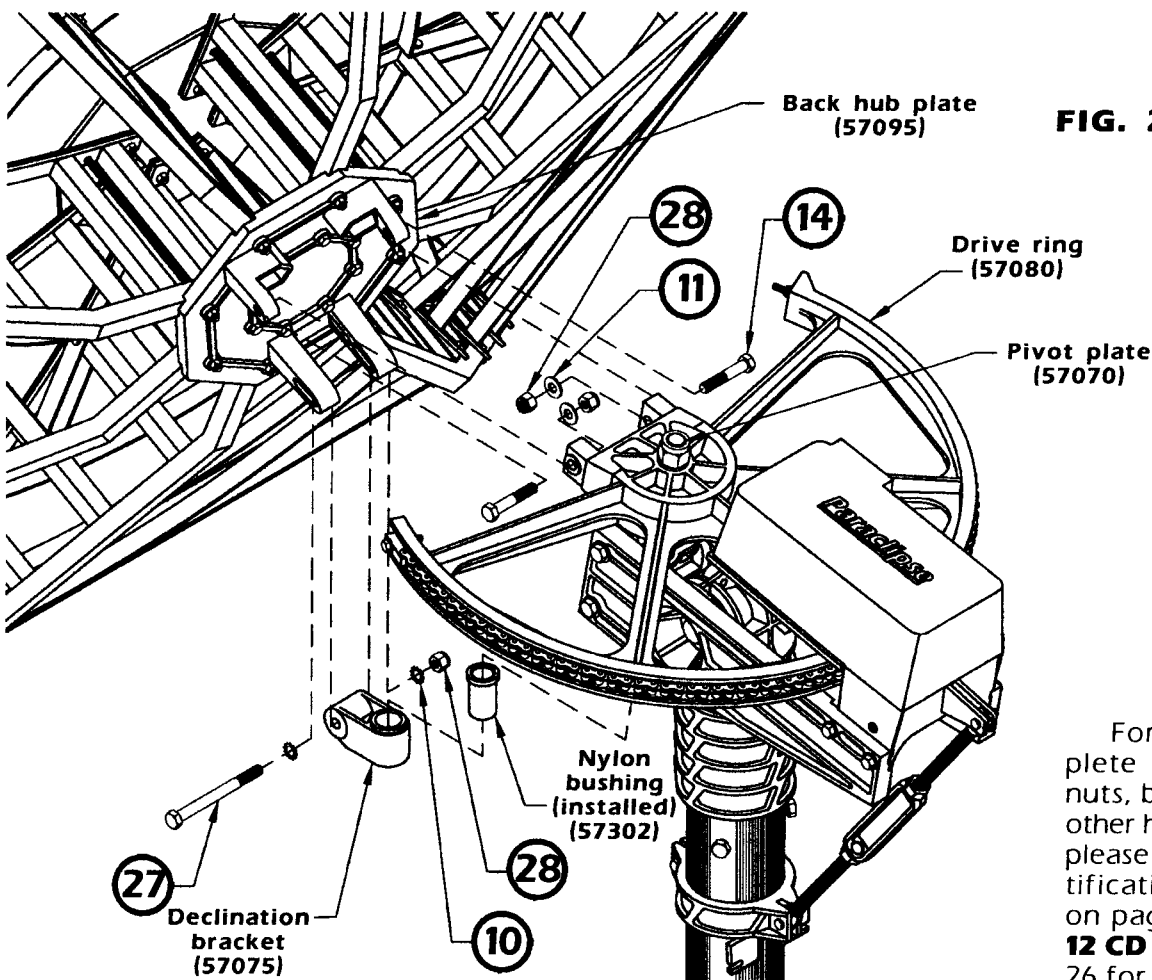

FIG. 25
1. Lift the assembled reflector and attach its back hub plate to the drive ring using two $\frac{1}{2}$ " x $2\frac{3}{4}$ " bolts, two $\frac{1}{2}$ " flatwashers, and two $\frac{1}{2}$ " nyloc nuts. Do not tighten. (See Fig. 25)
2. Slide the declination bracket onto the shaft on the bottom of the pivot plate, making sure that the side with the nylon bushing slides up the shaft first. (See Fig. 25)
3. Attach the back hub plate to the declination bracket using one $\frac{1}{2}$ " x $5\frac{1}{2}$ " bolt, two $\frac{1}{2}$ " star washers, and one $\frac{1}{2}$ " nyloc nut. Tighten all reflector to drive ring and declination hardware without overtightening. (See Fig. 25)